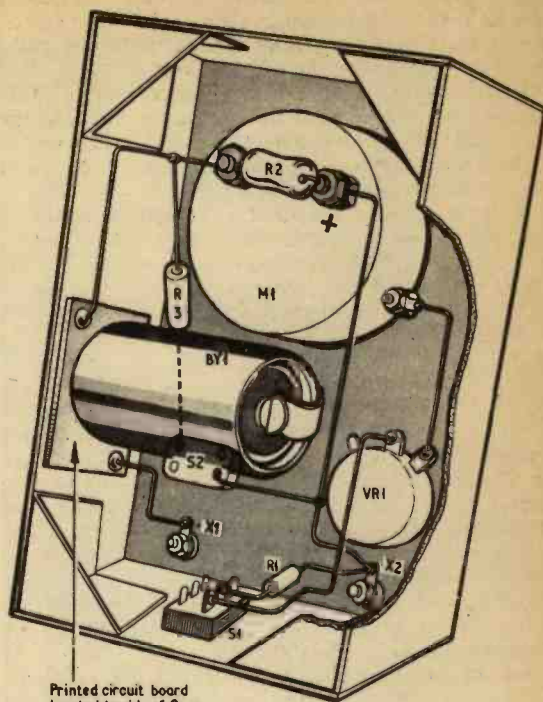

Fig. 5. Wiring of the ohmmeter
- Spring clip for holding battery (see Fig. 5)